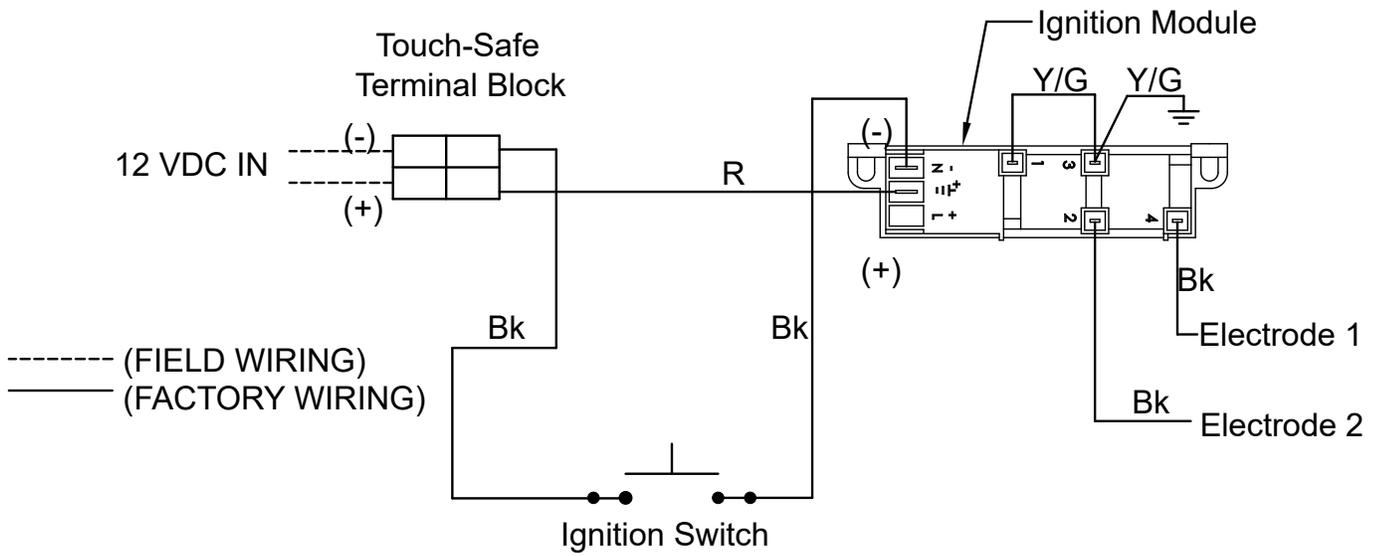

Figure 4
- Refer to Figure 4 for location of screw-type terminal.
- Make the 12 Volt D.C. electrical connection following the wiring diagram illustrated in Figure 4.